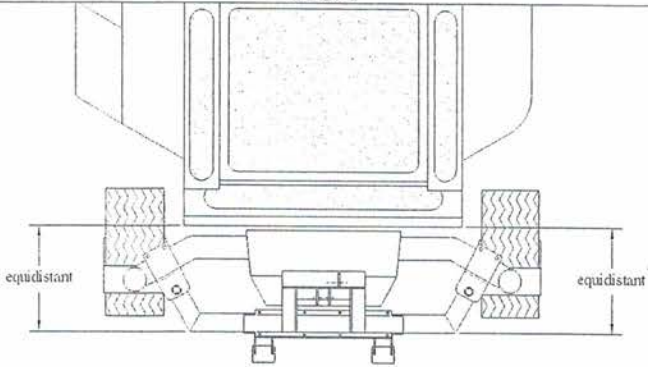

FIG. 3
4. Square up the aerator to the first crossmember of the footpan on tractor. Do not try and use the casters to square as most of the commercial midmount mowers have two different length caster arms. Once assembly is squared, tighten hardware to the crosstube mounts, but leave the bolts in the clamp halves loose. **FIG. 3**